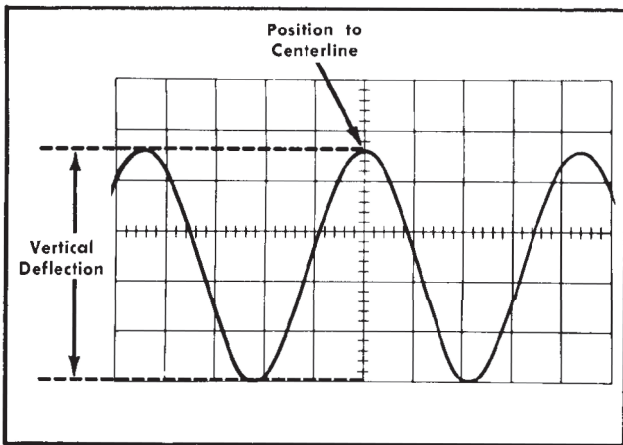

Fig. 2-5. Measuring peak-to-peak voltage of a waveform.
6. Turn the POSITION control so the lower portion of the waveform coincides with one of the graticule lines below the centerline, and the top of the waveform is within the viewing area. Move the display with the time-base position control so one of the upper peaks lies near the vertical centerline (see Fig. 2-5).
Example. Assume a peak-to-peak vertical deflection of 4.6 divisions (see Fig. 2-5) using a 10× attenuator probe and a VOLTS/CM switch setting of .5.